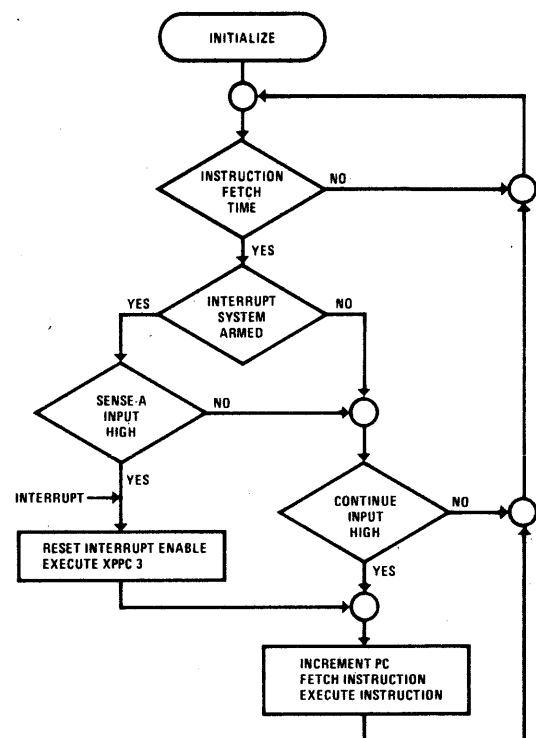

FIGURE 8.
When the internal interrupt enable (IE) flag is set under program control, the Sense A line is enabled to serve as an interrupt request input; when the IE flag is reset, SC/MP is inhibited from detecting interrupts. Thus, while the IE flag is set, the Sense A input is tested prior to the fetch phase of each instruction as shown in figure 8. Upon detection of an interrupt request (Sense A high), the following events occur automatically.
The CONT input to SC/MP is provided to enable suspension of operation without loss of internal status. Processing of the CONT input is shown in figure 8. Since this is an asynchronous input, it can be controlled by external timing logic, or as stated previously, the HALT flag output that appears on the 8-bit data bus (during the read cycle that follows execution of a Halt Instruction) can be used with an external circuit to effect a programmed halt condition. Note that when an interrupt request is detected while the CONT input is low, the first instruction of the user-generated interrupt service routine is automatically executed. Thus, the first instruction of the interrupt service routine can be used to reset the external CONT input logic and, thereby, to terminate the microprocessor halt condition if so desired.